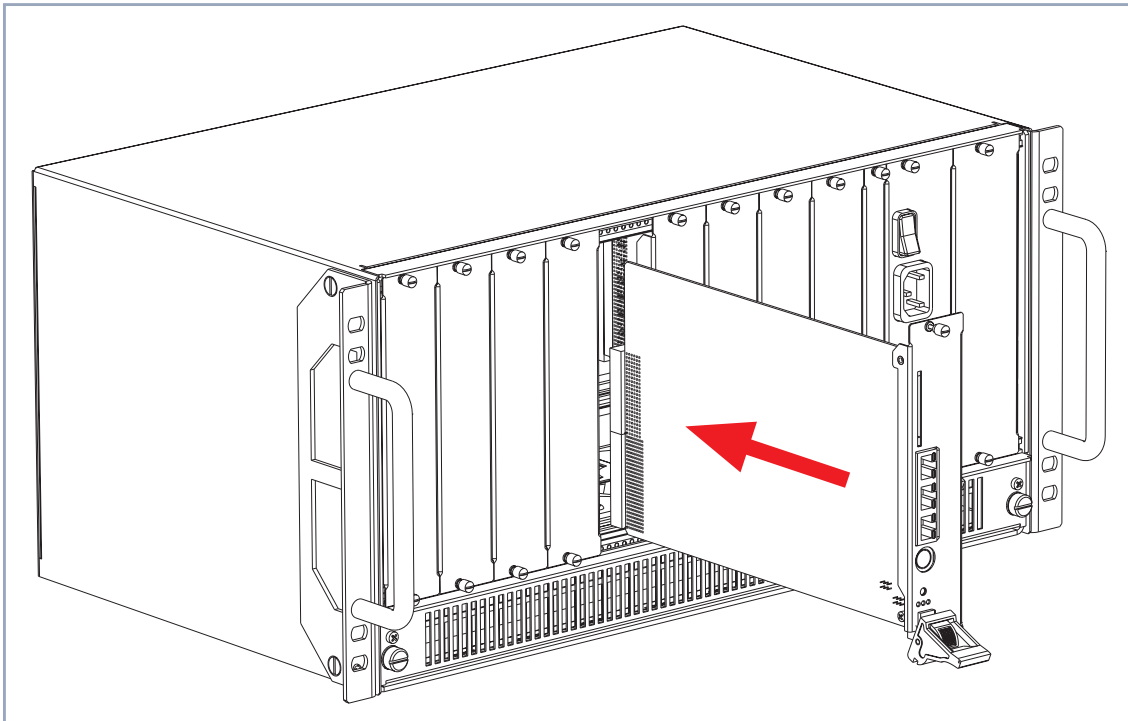

Figure 4-4: Inserting an expansion card
- Insert the expansion card into the selected slot until it reaches the slot connector (see figure 4-4, page 38).
- Insert the expansion card into the selected slot until it reaches the slot connector (see figure 4-4, page 38). Card guides ensure that the expansion card is reliably inserted.